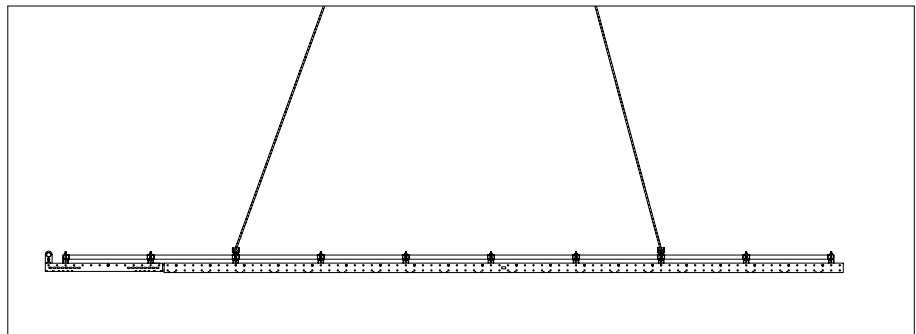

Fig. E.04
6. Load with the Screen Adapter Stacking LPS if not completely dismantled, see Section "C1 Pre-Assembly" on Page 86 as well as Instructions for Use for Screen Adapter Stacking LPS 60. (Fig. E.04 + E.04a)